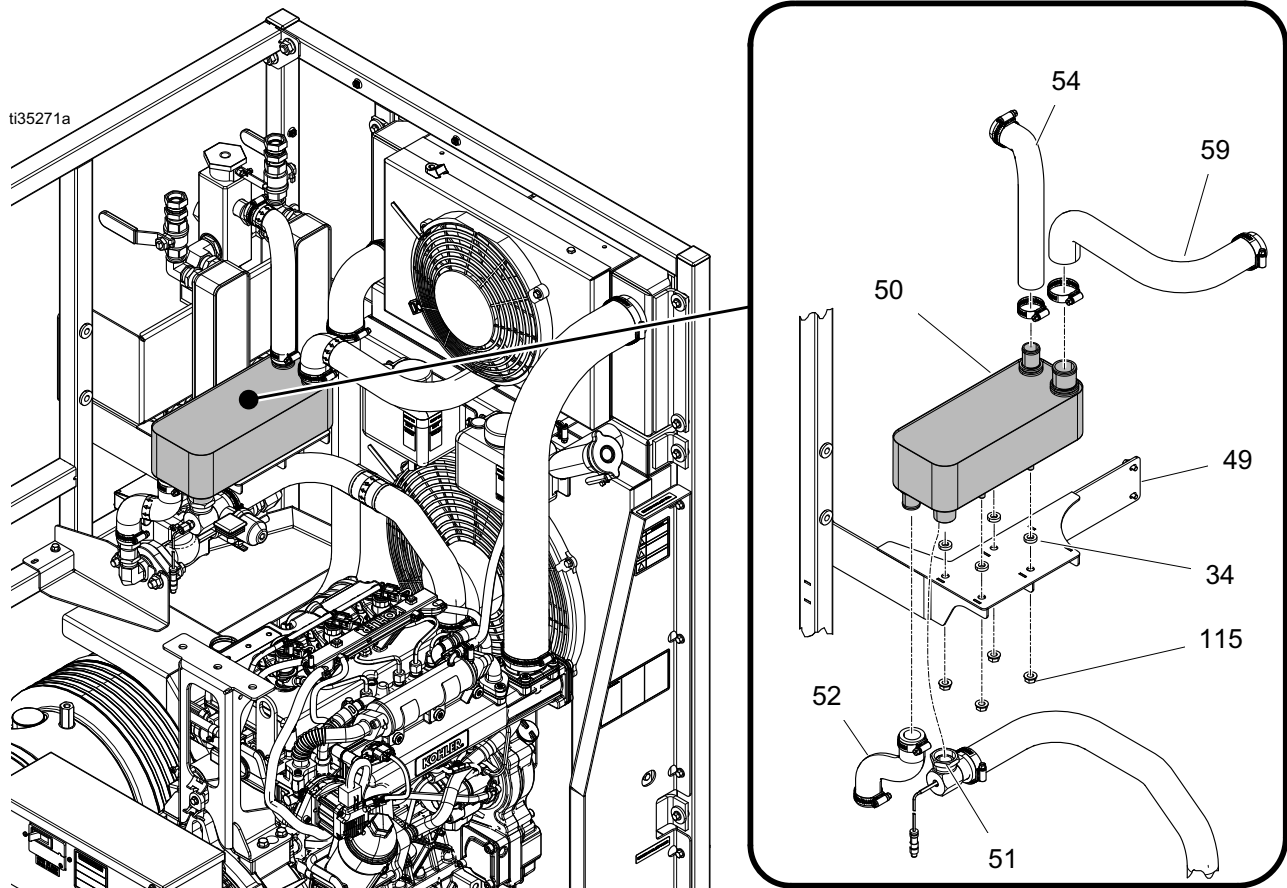

FIG. 12: Replace Primary Heat Exchanger
NOTE: Refer to FIG. 12 to replace the primary heat exchanger (50).
3. Disconnect three coolant hoses (52, 54, 59) and the elbow fitting (51) from the heat exchanger.
4. Remove four nuts (115), four washers (34), and the primary heat exchanger (50) from the primary heat exchanger bracket (49).
5. Install the new primary heat exchanger (50) onto the bracket (49). Use four washers (34) and four nuts (115).